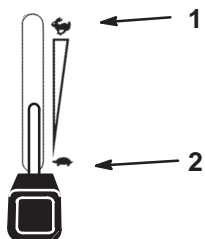

Figure 17
- Push the PTO to off (Fig. 17).
- Move the throttle lever midway between the slow and fast positions (Fig. 17).